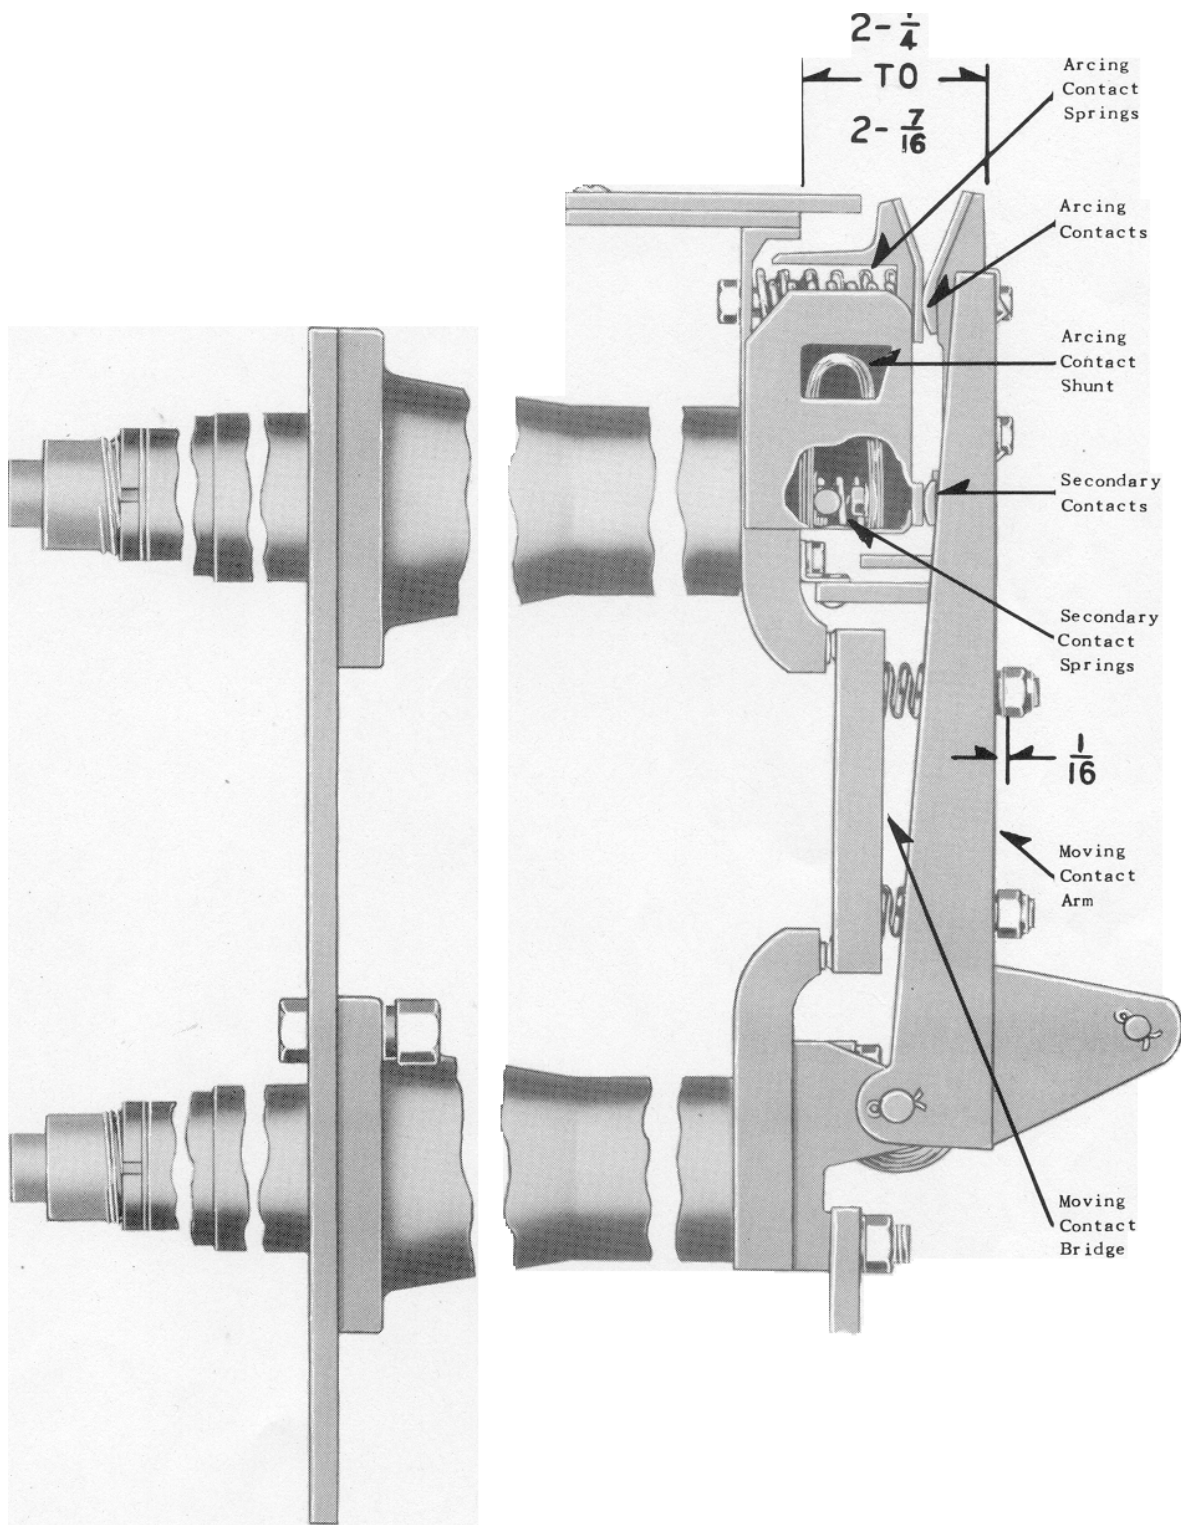

FIG. 4 - Contact Assembly
remove the contacts or if for some reason, the breaker has been disassembled, refer to Fig. 4, page 13 and proceed with the contact adjustment as follows.
The linkage between the moving contact arms of a multi-pole breaker and the closing mechanism consists of the insulating operating rods and the cross-bar. The cross-bar is omitted in a single pole breaker. The length of this linkage is adjusted to satisfy each pole unit requirement by turning the rod in or out of the threaded hole in the crossbar then locking in place with the lock-nut at that point. This linkage should be so adjusted that when the mechanism is in the latched-closed position the distance between the upper forward surface of the top upper stud block and the inner surface of moving contact arm is from 2-1/4 to 2-7/16 inches. See Fig. 4.
If new contacts are being installed or if the contacts have just been smoothed it is well to operate the breaker electrically several times so that the surfaces are "worked together" before making this adjustment. See Fig. 4, Contact Assembly.
(1) Remove large barrier covering the upper half of breaker (interphase barrier) inspect for smoked spots and wipe clean.
(2) Remove arc chutes - Inspect for breakage of plates, metallic deposits and dirt in chute slots. Blow out chute with compressed air and clean any remaining residue by vigorous brushing. A wire brush is not recommended. Chutes with broken plates should not be used again but should be replaced with new chutes.
(3) Check contacts by operating breaker with hand closing lever - Inspect for excessive roughness on bridges and proper adjustments. See Figure 4 for proper adjustments - Any roughness on main or bridge contacts may be removed with a fine file or sandpaper. Too much filing may shorten life. Top or arcing contacts may be left slightly rough. Readjust contacts to obtain proper clearance as per Figure 4.
(4) Check solenoid mechanism by operating with close lever - inspect for loose bolts or excessive friction of moving parts. Tighten loose bolts and oil all pins with light lubricating oil. Trigger and switches should be clean and free from oil.
(5) Check rest of breaker for loose bolts or excessive wear. Wipe off all parts and tighten loose bolts. Replace any parts excessively worn that might affect mechanical operation of the breaker.
(6) Check wiring -- Inspect for shorts and grounds - Any defective wiring should be replaced.